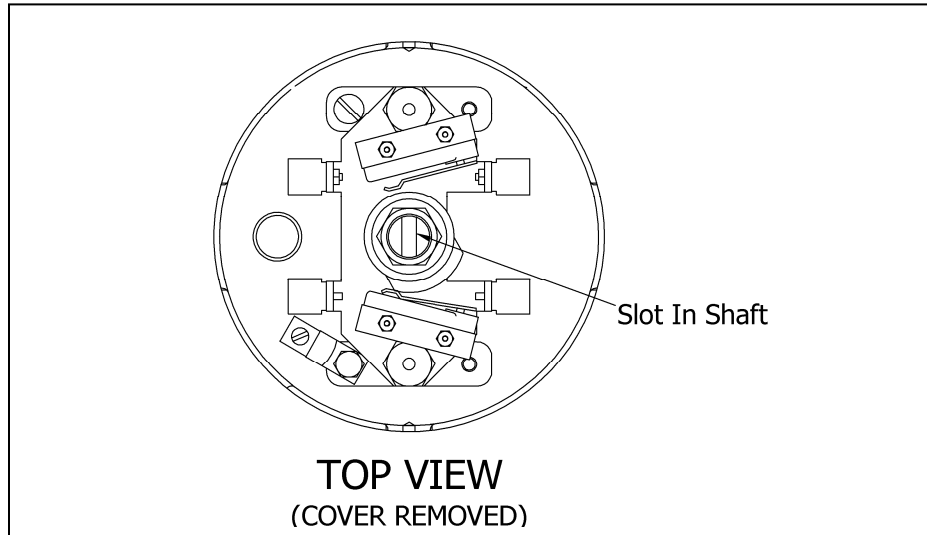

Figure 8: Limit Switch Assembly From Above
18. Looking down at the open Limit Switch assembly, note the slot in the top of the shaft. This slot must be aligned inline with, or at 90° of, the pipeline. Once the slot is in line, the Limit Switch Drive Coupling may be tightened. (See Figure 8)